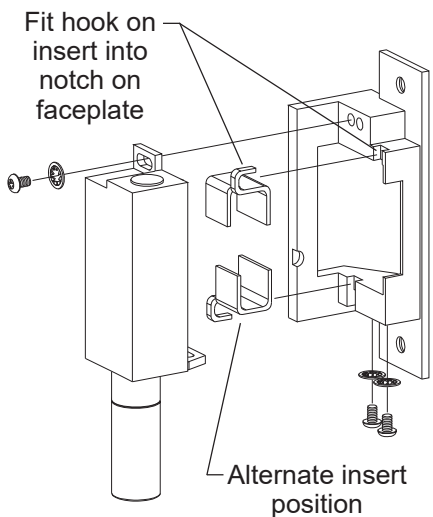

Figure 2
- Install insert for auxiliary bolt operation (Figure 2).